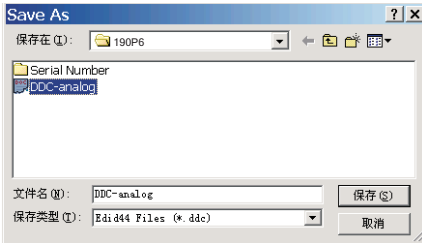

Fig. 25
1. Click (Save) icon (or click "file"->"save as") from the tool bar And give a file name as shown in Fig. 25. The file type is EDID46 file (*.ddc) which can be open in WordPad. By using WordPad, the texts of DDC data & table (128 bytes, hex code) can be modified. If DDC TEXTS & HEX Table are completely correct, it can be saved as .ddc file to re-load it into DDC IC for DDC Data application.